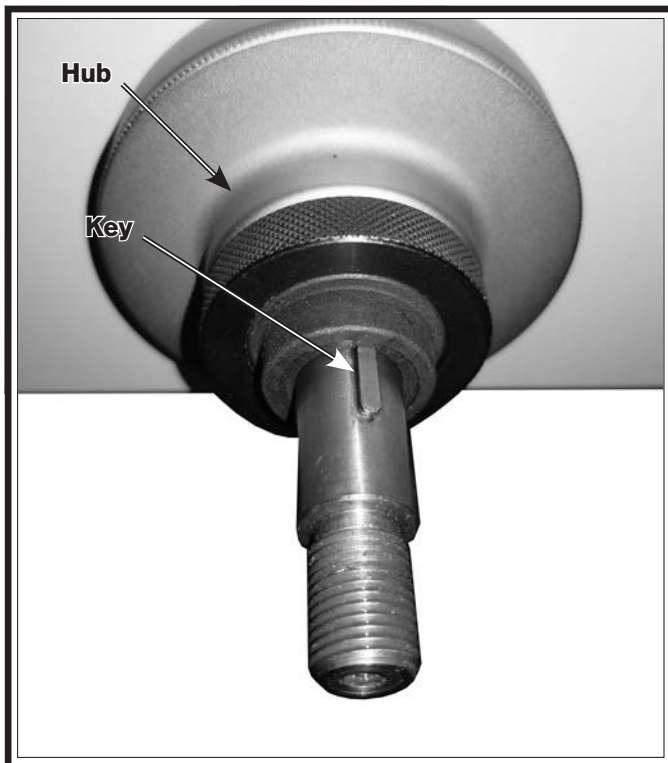

Figure 51. X-axis hub.
5. Without losing shaft key (see **Figure 51**), slide hub off shaft.